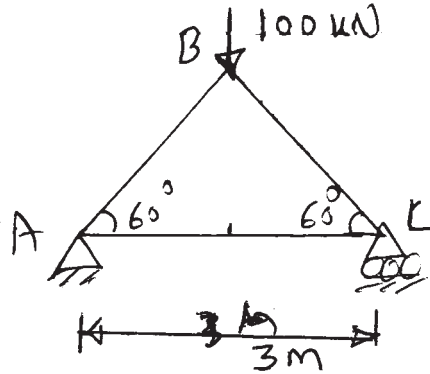

Fig. No. 8
- b) Using method of joints calculate magnitude and state nature of forces in all members of the truss as shown in Fig. No. 8.